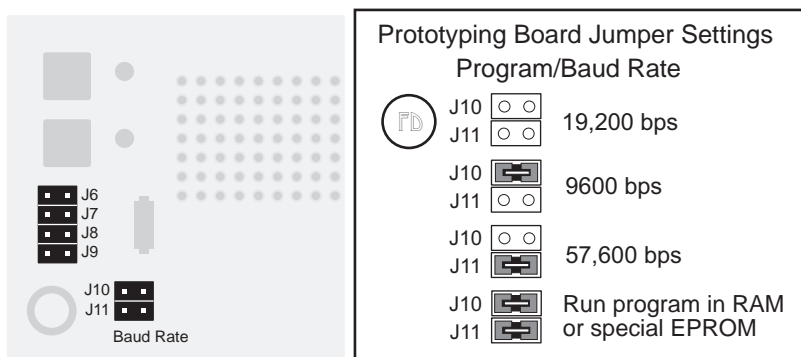

Figure 2-5. CM7100 Prototyping Board Program/Mode Jumper Settings
- Set the Prototyping Board's jumpers. Jumpers across headers J10 and J11 affect the operational mode and the baud rate as shown in Figure 2-5. When both headers J10 and J11 are jumpered, the CM7100 checks headers J6–J9 at startup. If none of these headers is jumpered, the CM7100 will execute the program, if any, stored in RAM. If some of these headers are jumpered, a sample program stored in the special CM7100 EPROM will begin executing.